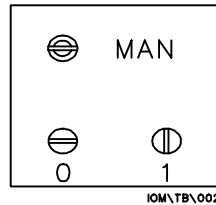

Fig 7
- 2.2 The operation of the valve may be checked using the manual override screw fitted to the solenoid operated valve. Note: There are two manual override screws fitted to double solenoid valves and they operate independently. Ensure the manual override screw is set for automatic operation (position O) when checks are complete. (Fig 7)